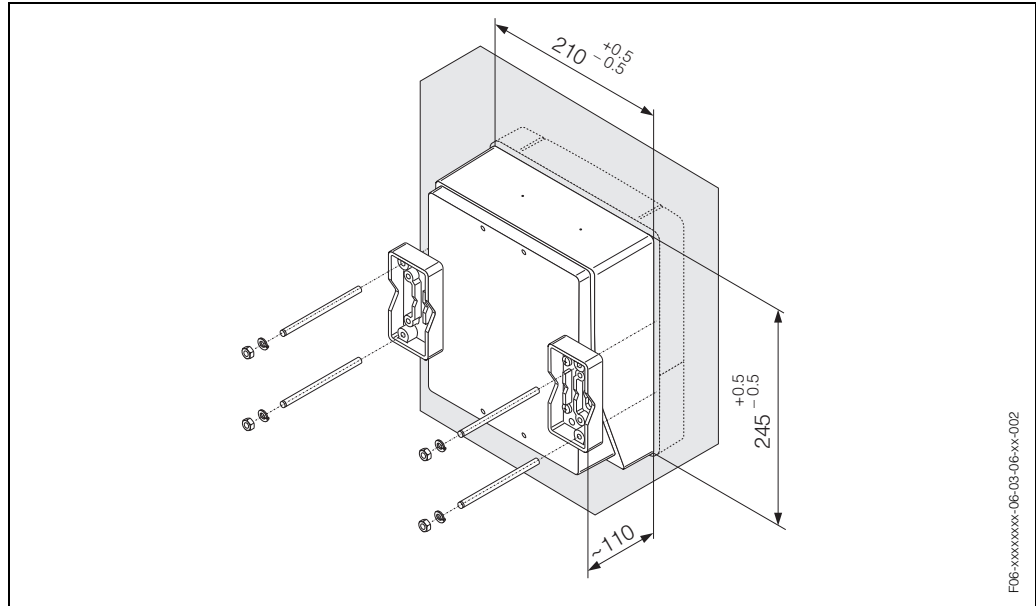

Fig. 25: Panel Installation (wall-mount housing)
1. Prepare the opening in the panel (Fig. 25).